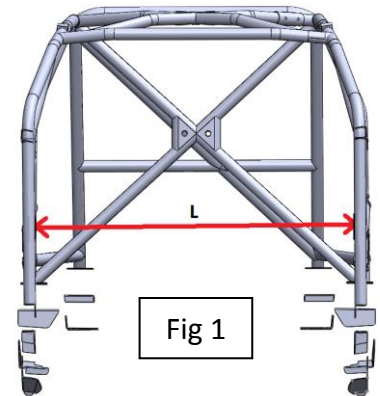

Fig 1
1. Decide upon what position you wish to mount the dash bar on your cage. Measure required length (L) between the two front leg **inside edges** as shown in Fig 1.